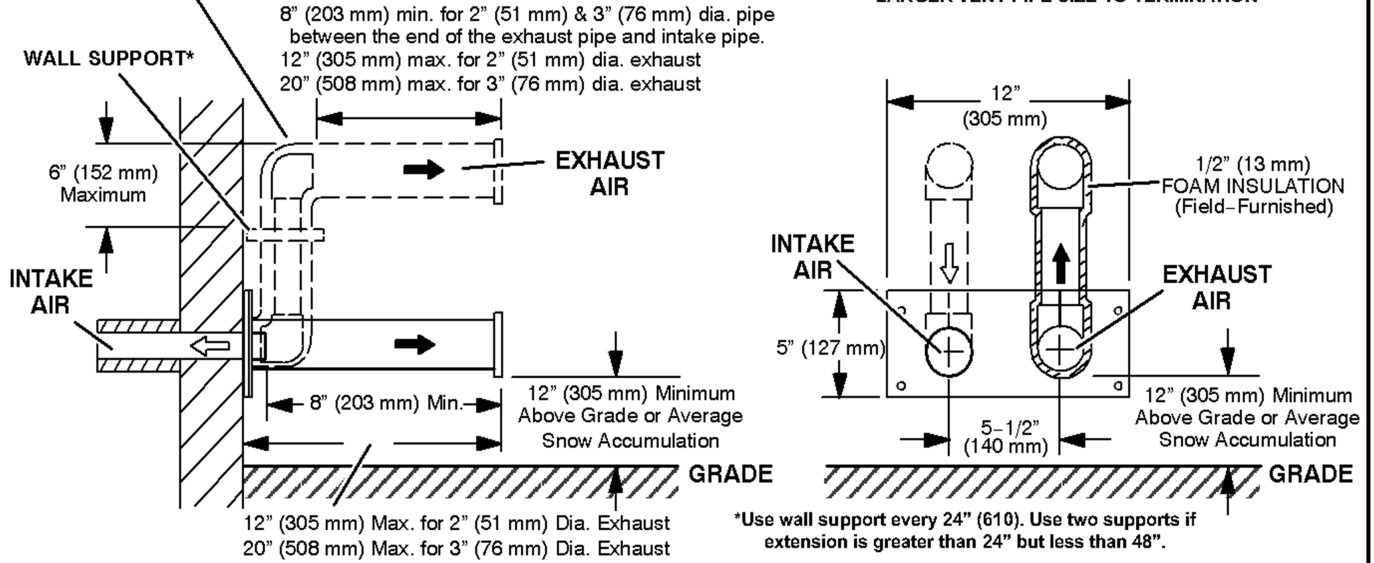

FIGURE 30
- If intake and exhaust piping must be run up a side wall to position above snow accumulation or other obstructions, piping must be supported every 24" (610mm) as shown in figures 20 and 22. In addition, close-coupled wall termination kits must be extended for use in this application. See figures 30 and 31. When exhaust and intake piping must be run up an outside wall, the exhaust piping must be terminated with pipe sized per table 9. The intake piping may be equipped with a 90° turndown elbow. Using a turn-down elbow will add 5 feet (1.5m) to the equivalent length of the pipe.